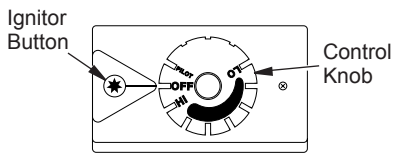

Figure 32 - Control Knob In The OFF Position
4. Wait five (5) minutes to clear out any gas. Then smell for gas, including near the floor. If you smell gas, STOP! Follow "B" in the safety information, page 19. If you don't smell gas, go to the next step.
5. Turn control knob counterclockwise  to the PILOT position. Press in control knob for five (5) seconds (see Figure 32).